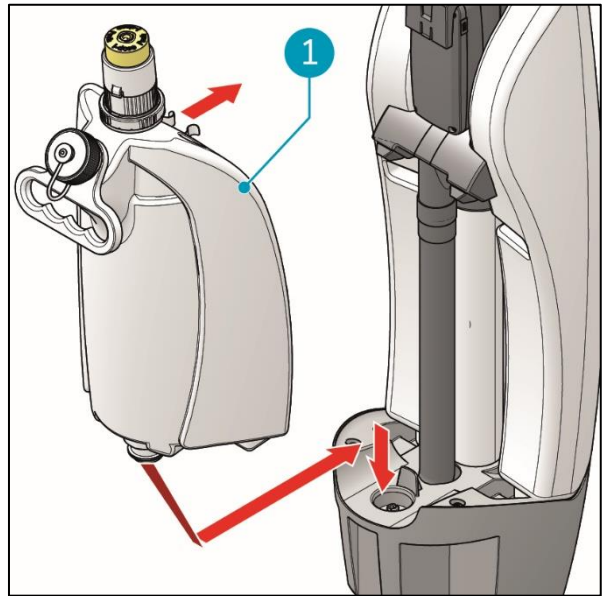

Figure 13
2. Put the cleaning solution tank (Figure 13, pos. 1) on the i-mop XXL Pro with the valve first.